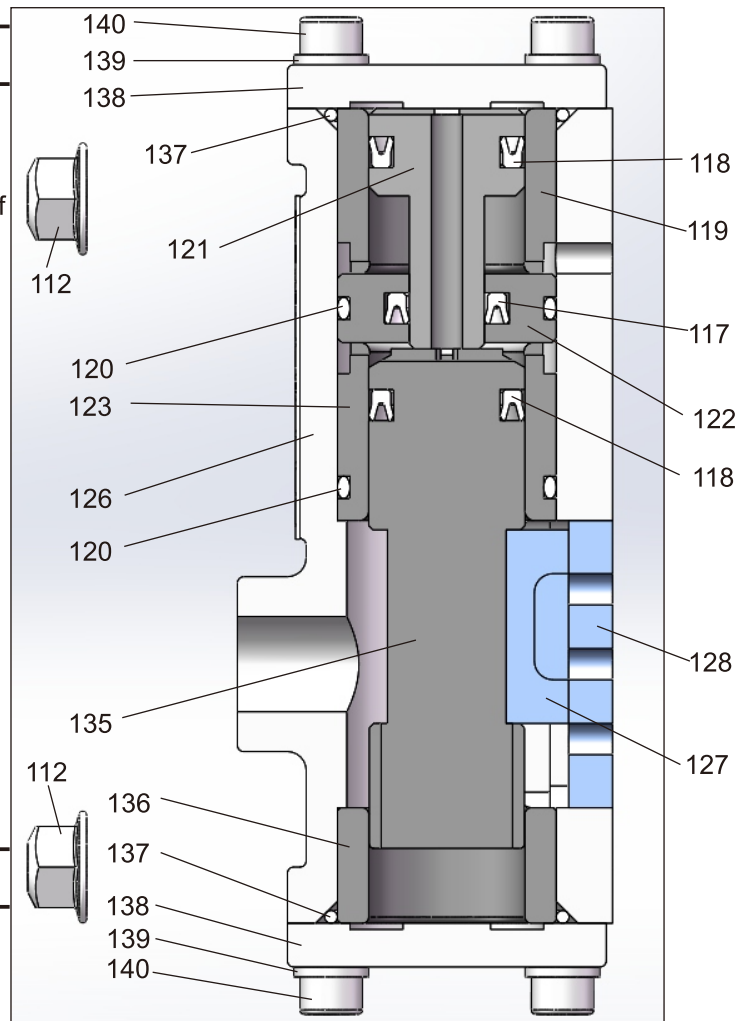

Figure 7
1. Remove (112)nuts, then remove the assembly of major valve. See Figure 7.
2. Remove (128) valve plate and (127) valve insert. See Figure 7.
3. Remove (140)screws, (139)washers, (138)covers. See Figure 7.
4. Remove (137)O-rings. See Figure 7.
5. Remove (136)sleeve and (135)spool. See Figure 7.
6. Remove (121)helping shaft, (119)sleeve, and (122)Ring. See Figure 7.
7. Remove (118)Y cup from (121)helping shaft; Remove (117) Y cup and (120)o-ring from (122) Ring. See Figure 7.
8. Remove (123)sleeve, then remove (120)o-ring from (123)sleeve. See Figure 7.
- Lubricate the planes with lubricant grease, where (128) valve plate and (127) valve insert contact with each other.
- Pay attention to the orientation of Y Cups (118)&(117). Must ensure correct installation. See Figure 7 & Figure 8.
- Pay attention to the orientation of (127) valve insert. Must ensure correct installation. See Figure 7 & Figure 8.